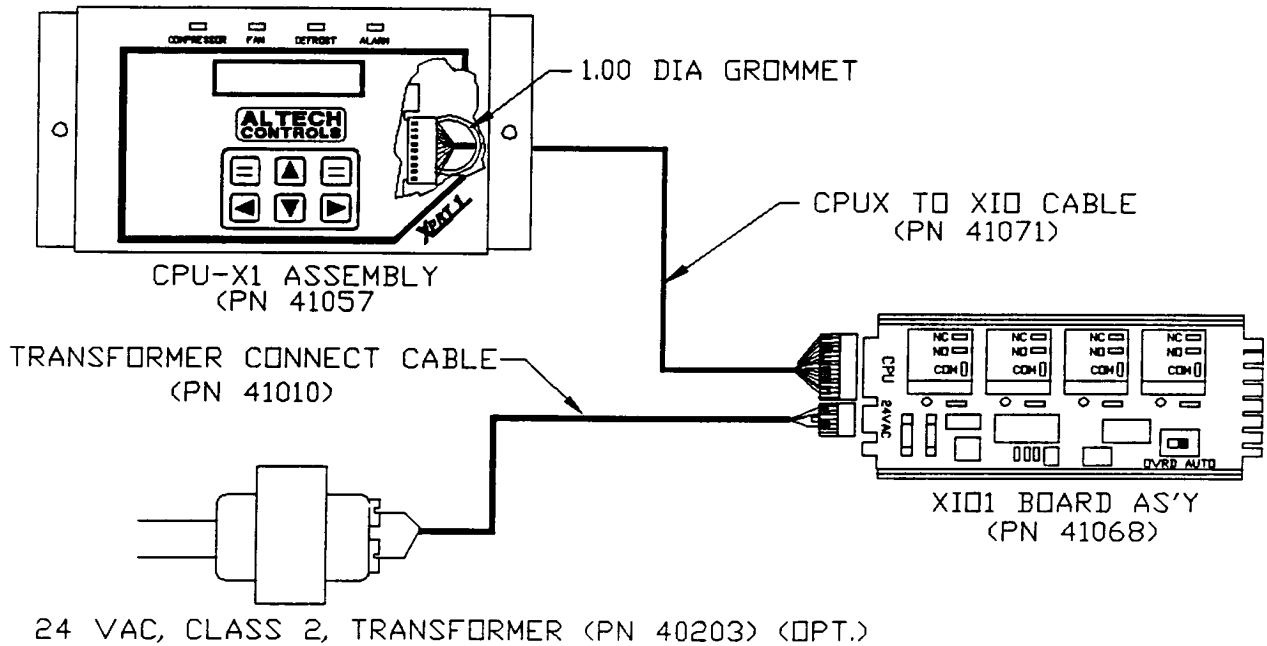

Figure E-1
- Connect one end of the CPU-X1 to XIO Cable to the CPU-X1 board as indicated in Fig. E-1. Route the cable through the grommet.
- Wire as shown in Figure E-1.